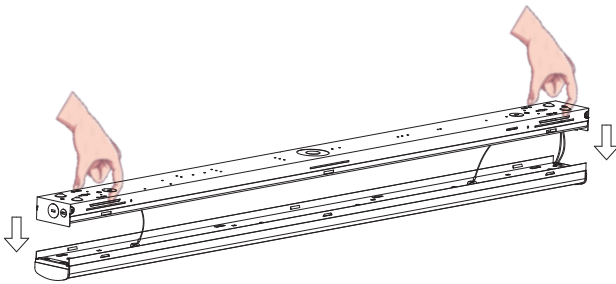

Figure 1
1. Squeeze the sides of the fixture body to remove the light engine. The pre-installed safety cables will allow the light engine to hang freely (Figure 1).